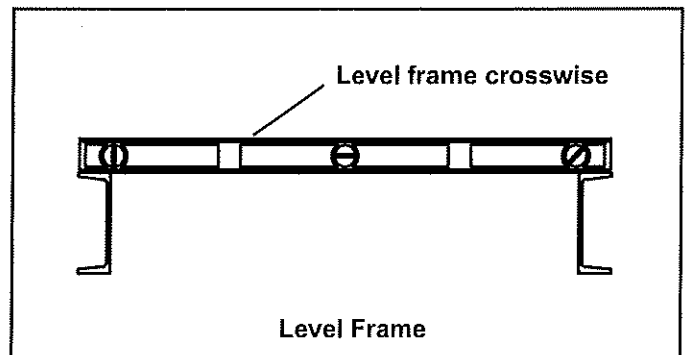

Figure 43
1. Level all frames crosswise as gravity will force the belt off-center if one side of the conveyor frame is lower than the other (Figure 43).